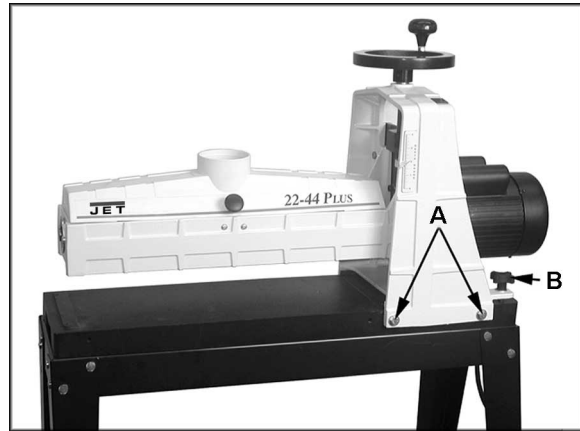
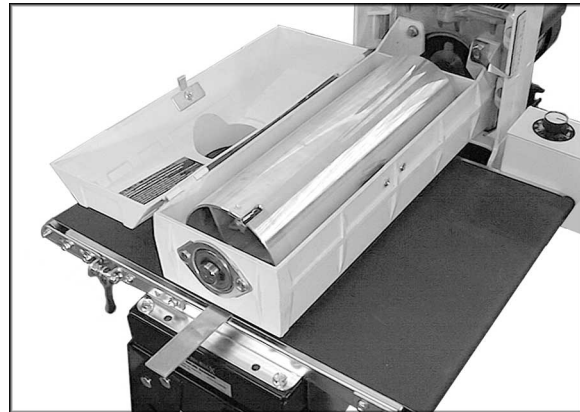

Figure 22
Figure 23
1. Loosen the four 3/8" hex cap screws – two front, two rear (A, Figure 22). This allows the entire drum carriage and shroud to be pivoted on two screws – one screw in front, one in back.
2. Lay the thickness gauge under the drum lengthwise. See Figure 23. Rotate the fine tune adjustment knob (B, Figure 22) until the drum contacts the gauge equally along its entire surface. Rotate the knob clockwise to raise the outboard end of the drum, counterclockwise to lower the outboard end of the drum. Use the height adjustment handwheel to raise or lower the entire drum.
3. When drum is parallel to conveyor, tighten the four screws (A, Figure 22).
3. If a ridge is visible where the drum overlaps, loosen the four screws (A, Figure 22) and raise the outboard end of the drum by turning the fine tune adjustment knob (B, Figure 22) slightly clockwise.
Important: Only turn fine tune adjustment knob when all four screws (A, Figure 22) are loose.
5. Tighten the four screws (A, Figure 23).
NOTE: Keep track of how many revolutions of the fine tune knob are needed to change drum alignment for wider (over 22") sanding. When sanding narrow stock (less than 22") loosen the four screws (Figure 22) and turn fine tune adjustment knob counterclockwise the same amount as the initial wide sanding so that drum is again parallel.